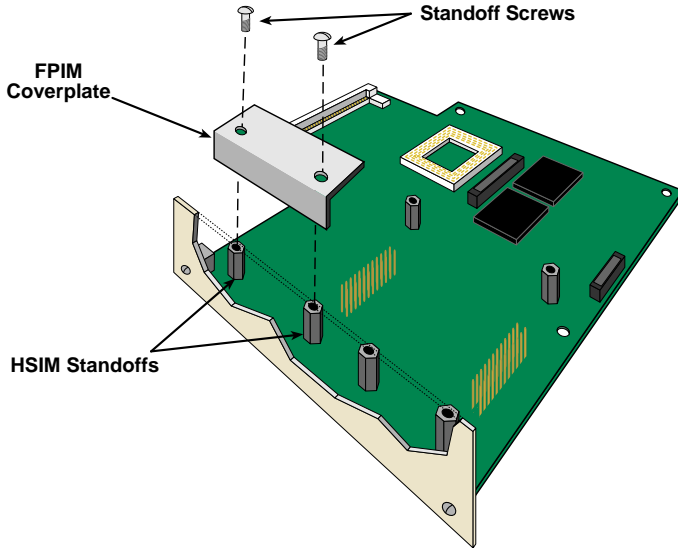

Figure 2-1 Removing the FPIM Coverplate
2. Refer to Figure 2-1 and remove the two screws from the standoffs. The two screws secure the FPIM coverplate. Save the screws and remove the FPIM coverplate.